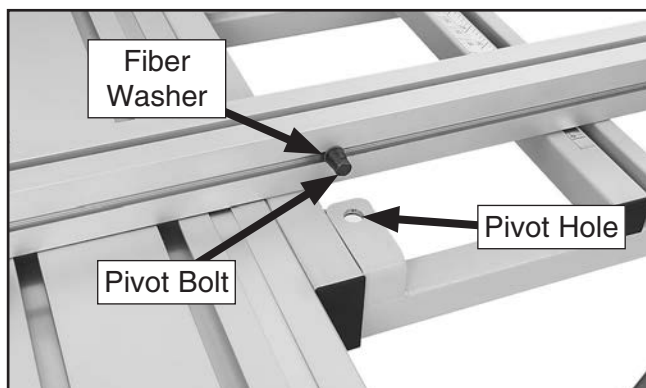

Figure 47. Pivot bolt installed in left end of crosscut table T-slot.
42. Slide (1) M8-1.25 T-nut into bottom T-slot of crosscut fence, then loosely thread M8-1.25 pivot bolt with (1) 8mm fiber flat washer into T-nut (see **Figure 47**).